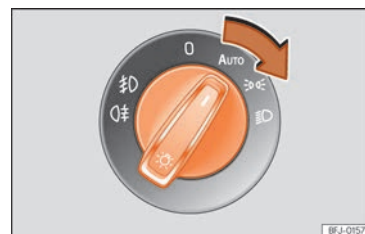

Fig. 96 Dash panel: lights control.
- Turn the switch to the required position **»» Fig. 96.**